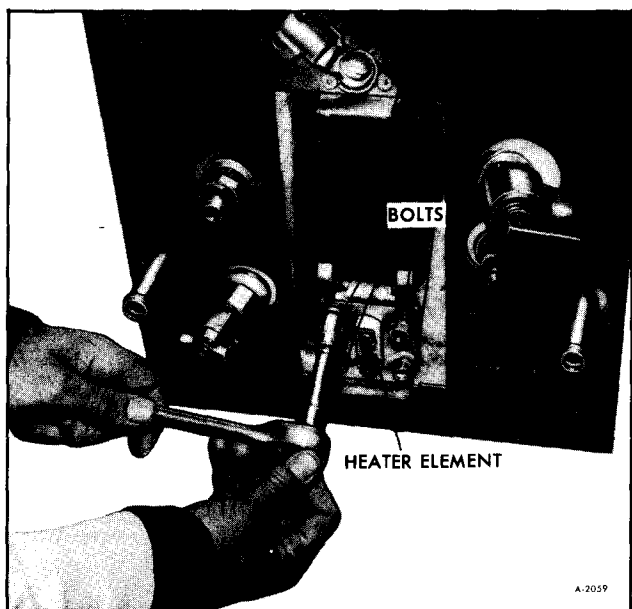

Figure 40—Removing Heater Element
4. Remove heater element as shown in Figure 40 by removing four bolts.